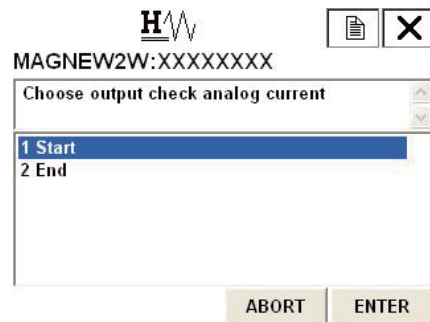

Fig. 7-80.
2. Fig. 7-80. will then appear. Choose START to start fixed value of analog current output, and then press F4 (ENTER)